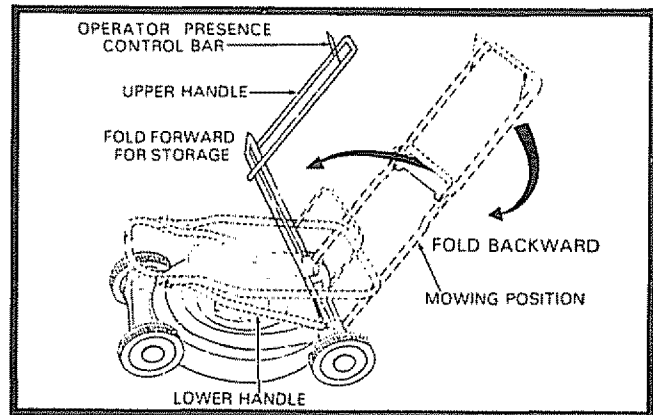

FIG. 12
- You can fold your Lawn Mower Handle for storage as shown in Fig. 12.
**IMPORTANT:** WHEN FOLDING THE HANDLE FOR STORAGE OR TRANSPORTATION, BE SURE TO FOLD THE HANDLE AS SHOWN IN FIG. 12. IF YOU FOLD THE UPPER HANDLE SECTION THE WRONG WAY, YOU MAY DAMAGE THE CONTROL CABLES.